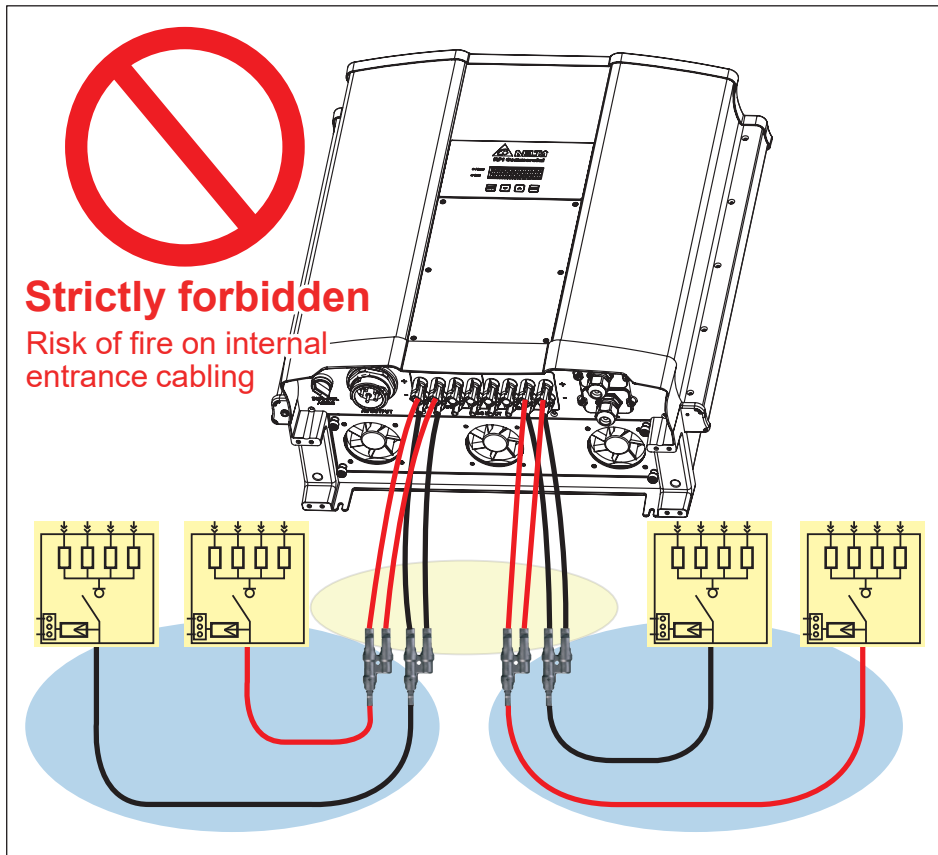

Figure 4-8 : Wrong connection – 2
- Also, you can't use two or more branch to share the current from combiner box to each DC connector of inverter (Shown as **Figure 4-8**).